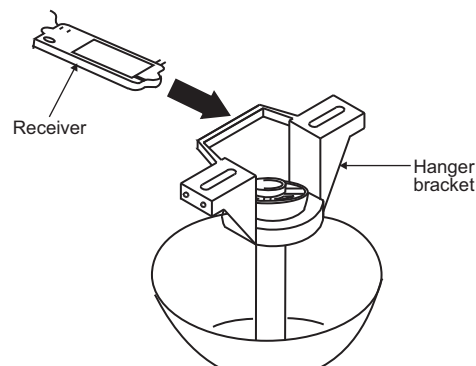

Fig. 13
Step 1. Insert the receiver into the ceiling mounting bracket with the flat side of the receiver facing the ceiling. (Fig. 13) For best performance, make sure the Black Antenna, on the end of the receiver, remains extended and not tangled with any of the electrical wires.